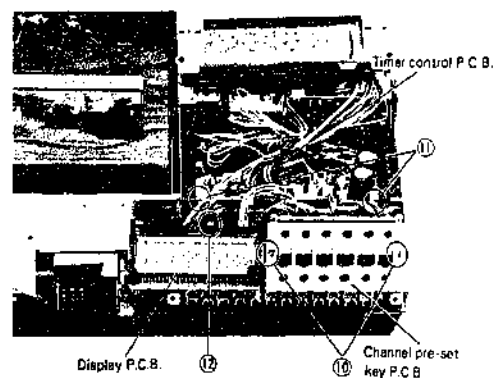

Fig. 11
⑩ 2 screws. (Fig. 11)
⑪ 2 screws. (Fig. 11)
⑫ 1 screws. (Fig. 11)